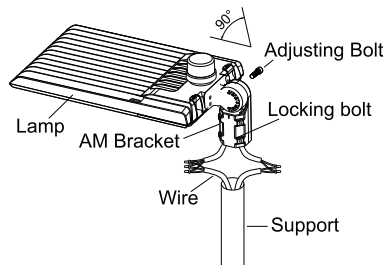

Figure 11
1. ADJUSTABLE FITTER MOUNTING (AM)
Step 1: Loosen the four bolts on AM bracket, connect the wires correctly, and pull the wires into the poles. (Figure 11)
Notice: Adjustable angle is 0-90° (Figure 11)